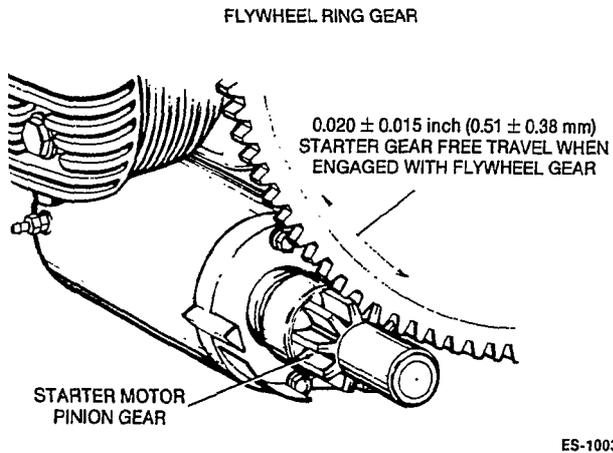

FIGURE 12. CHECKING STARTER GEAR LASH
4. Measure the amount of free travel (lash) between the pinion gear teeth and the ring gear teeth. See Figure 12. If lash is too tight, causing binding and slow starter operation, or if lash is greater than 0.035 inch (0.889 mm), lash must be adjusted.